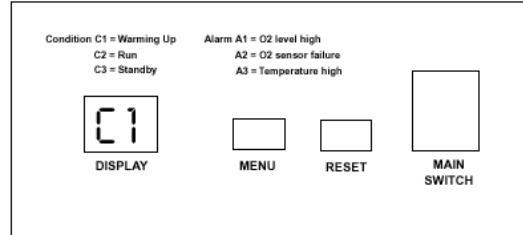

Figure 5. Control Panel Warm-Up Mode
2. Turn the main switch to ON (figure 5). The display will show C1 for approximately 15 minutes while the unit warms up.